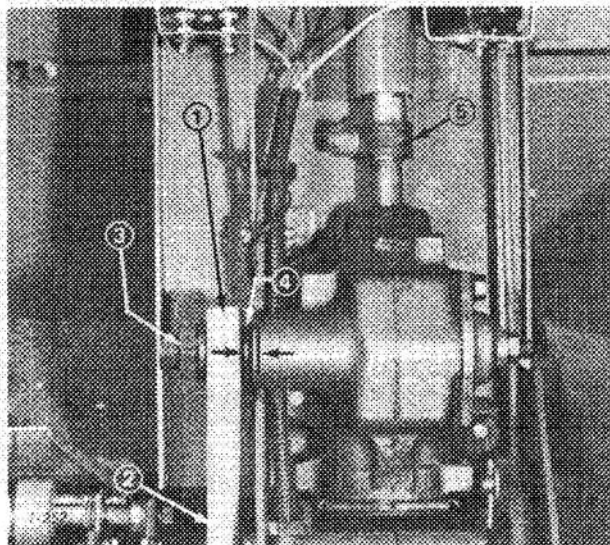

Figure 34
2. Mark steering arm and steering gear shaft (Fig. 34) so arm can be installed in the same place when parts are assembled.
3. Remove cotter pin and slotted nut holding steering control rod and steering arm together (Fig. 34). Separate ball socket at end of control rod from steering arm.
4. Remove large nut and lockwasher holding steering arm on gear box shaft (Fig. 34). Use a puller to remove the arm from the shaft.
5. Loosen steering-clamp carriage bolt and lock-nut (Fig. 34) until clamp can be moved.
3. Slide steering arm onto steering shaft and ensure the alignment marks — made when parts were removed — are in line. Secure arm on shaft with lockwasher and large nut (Fig. 34). Tighten nut until inside of arm is 5/8 in. (16 mm) from the steering gear, which should allow clearance for the steering linkage.
4. Slide ball socket at end of steering control rod through steering arm. Secure parts together with slotted nut and cotter pin (Fig. 34).